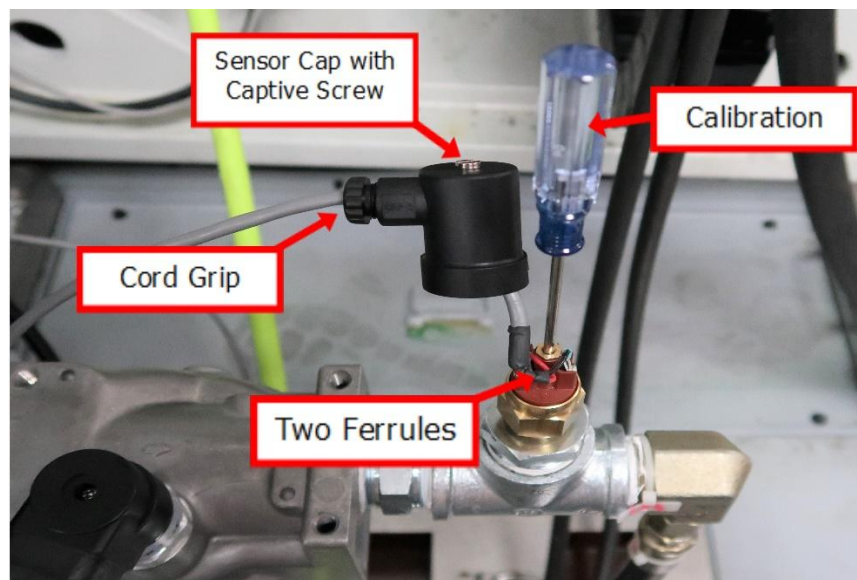

Figure 7.6 – Coolant Pressure Sensor
2. Loosen the slide cap and unscrew the captive screw at the top of the sensor. Now you can slide the cap out of the way. See figure 7.6